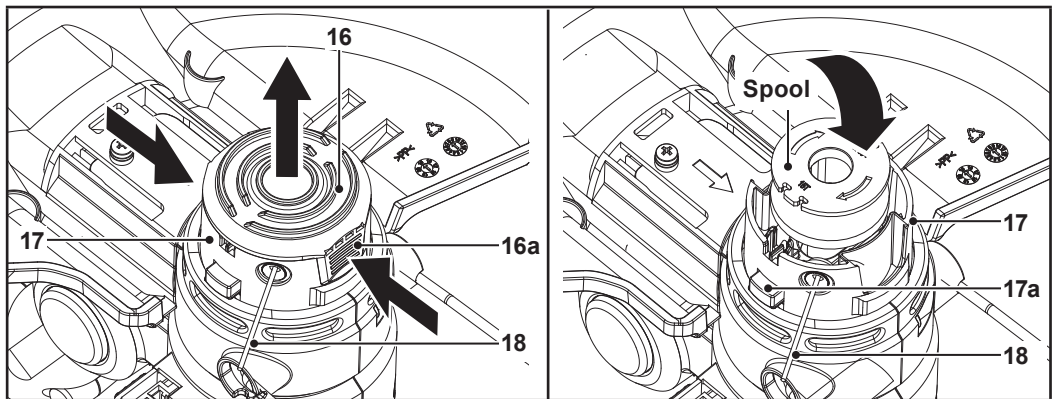
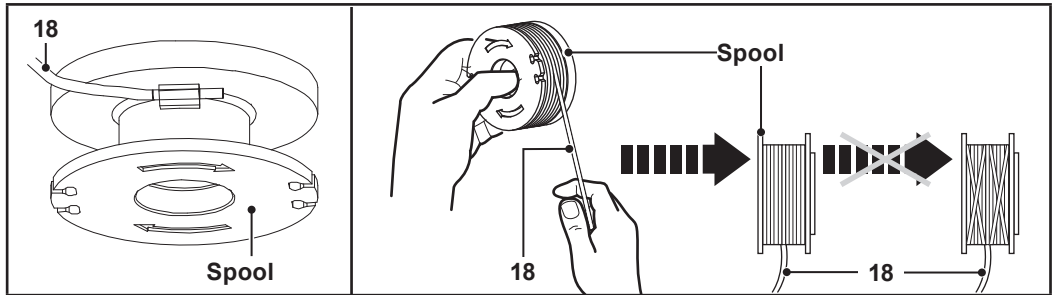

Fig. 11
Fig. 12
1. Remove the battery pack (19).
2. Open the spool housing (17): Press simultaneously both spool cap releases (16a) of the spool cap (16) (Fig. 11). You can use a tool (e.g. a screwdriver) to lift the spool cap.
3. Remove the spool cap (16) (Fig. 11).
5. Guide the end of the cutting line (18) of the new spool out of the slot of the spool housing (17). Pull approx. 15 cm of the cutting line outside the spool housing.
6. Insert the new spool into the spool housing (17) (Fig. 11).
7. Put the spool cap (16) back onto the spool housing (17). Make sure that the spool cap releases (16a) engage into the recesses on the spool housing.
5. Discard all the remaining cutting line (18) from the spool.
6. Clean the spool housing (17) and the spool.
7. Cut a new 4 m long cutting line (18) with a diameter of 1.6 mm.
8. Lead one end of the new cutting line (18) through the small eyelet on the spool in direction of the arrows (Fig. 12).
9. Wind all the cutting line (18) firmly around the spool in direction of the arrows on the spool (Fig. 12).